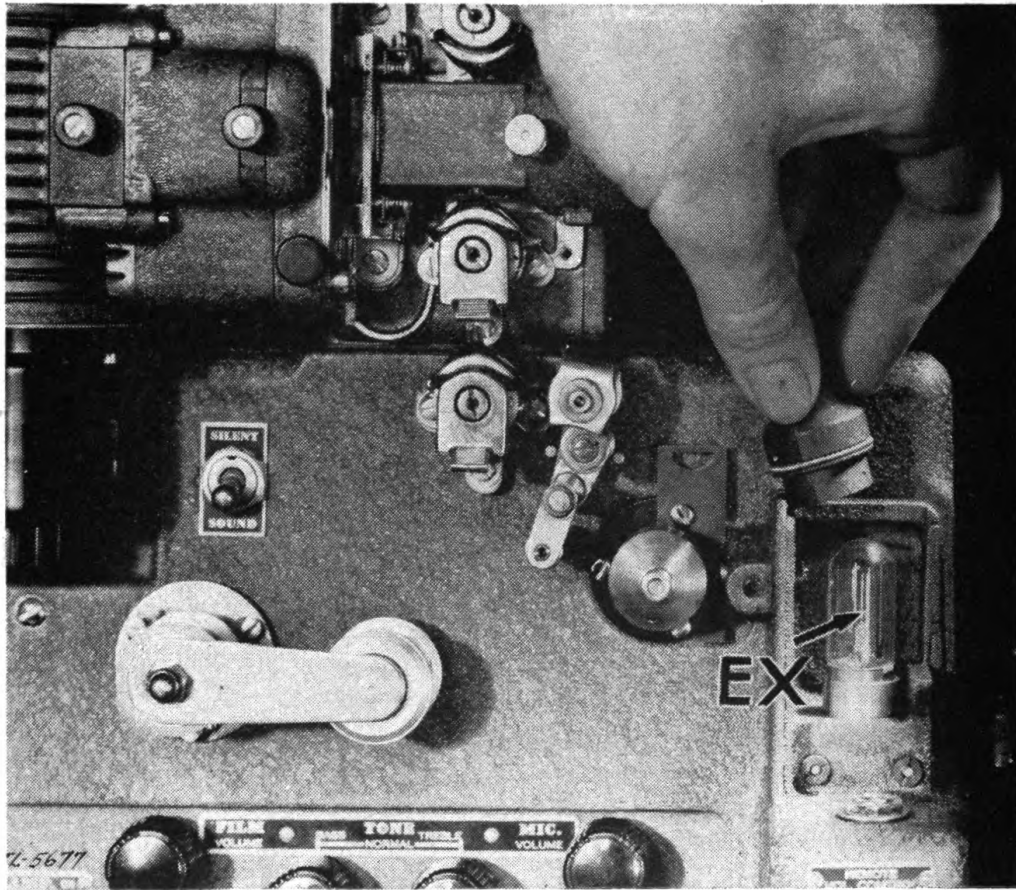

FIGURE 65. —Removing Bell & Howell exciter lamp.
(2) To replace the exciter lamp, loosen thumbnut and remove lamp cover (fig. 65). Lift off lamp shield. Press down on lamp, rotate to the left, and lift out. Replace with new lamp.